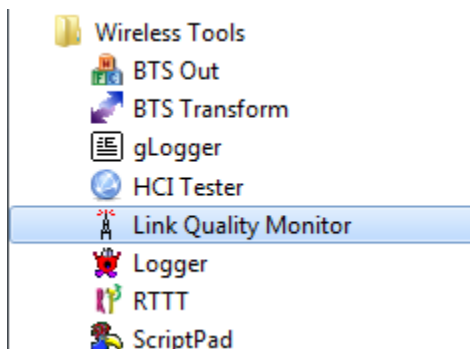

Figure 19. Starting the LQM
1. To start the LQM, click the Link Quality Monitor program icon (see Figure 19).